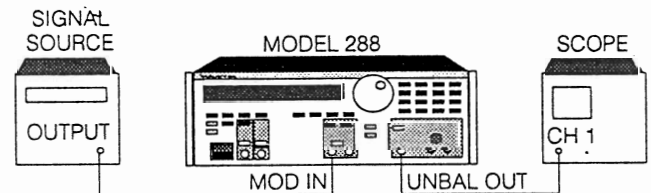

Figure 5-4. Adjust Amplitude Setup
1. Connect the test equipment as shown in figure 5-4.